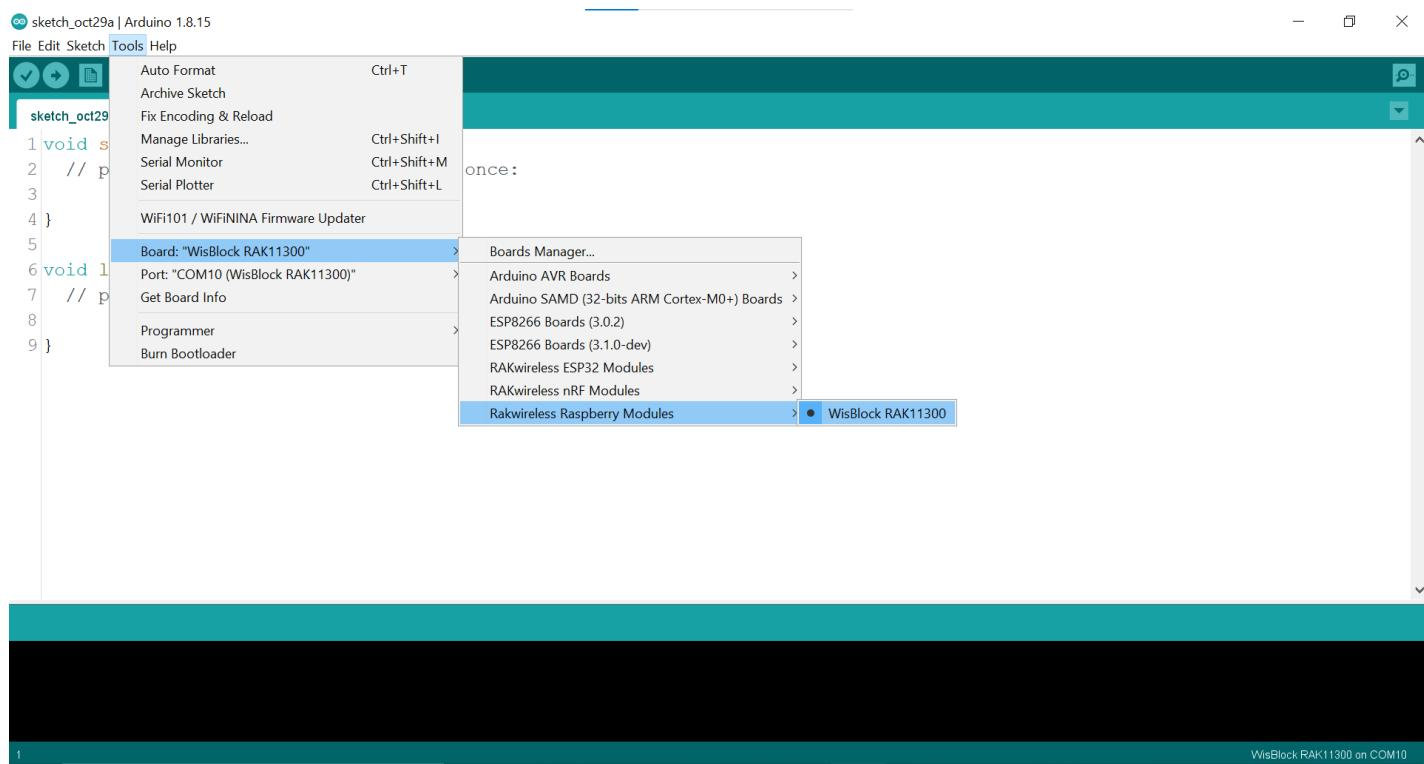

Figure 20: Selecting RAK11300 as WisBlock Core
1. First, you need to select the RAK11300 WisBlock Core as shown in **Figure 20**.